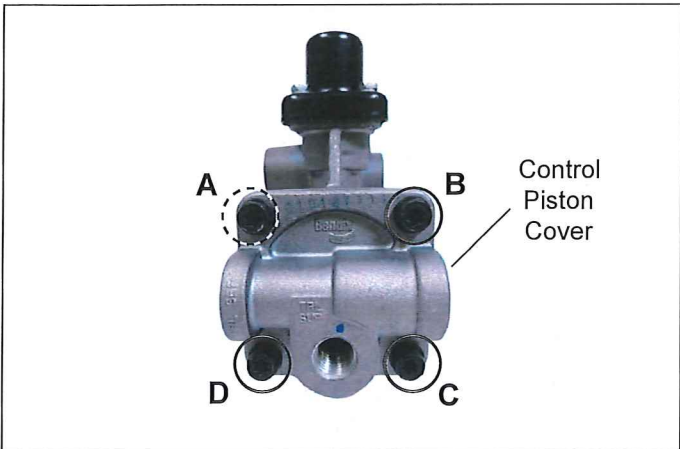

Figure 3 – Control Piston Cover Screws
2. It is necessary to rotate the fitting in the trailer supply port to complete this step. Rotate the fitting counterclockwise only (loosening) no more than 90°. (*Refer to Figure 3.*)
3. Rotate the cover back into position and install the three screws. Torque all four screws in a crossing pattern to 100 in-lbs. (A, C, D then B). (Refer to Figure 3.)